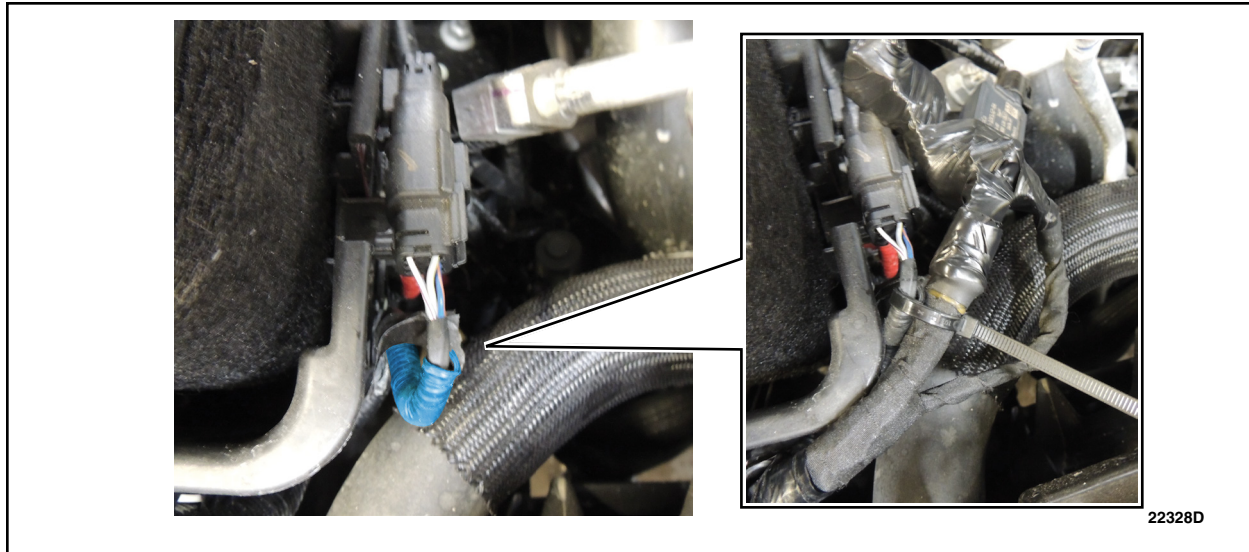

FIGURE 4
8. Using a tie strap, secure the negative battery cable to the identified harness. See Figure 4.